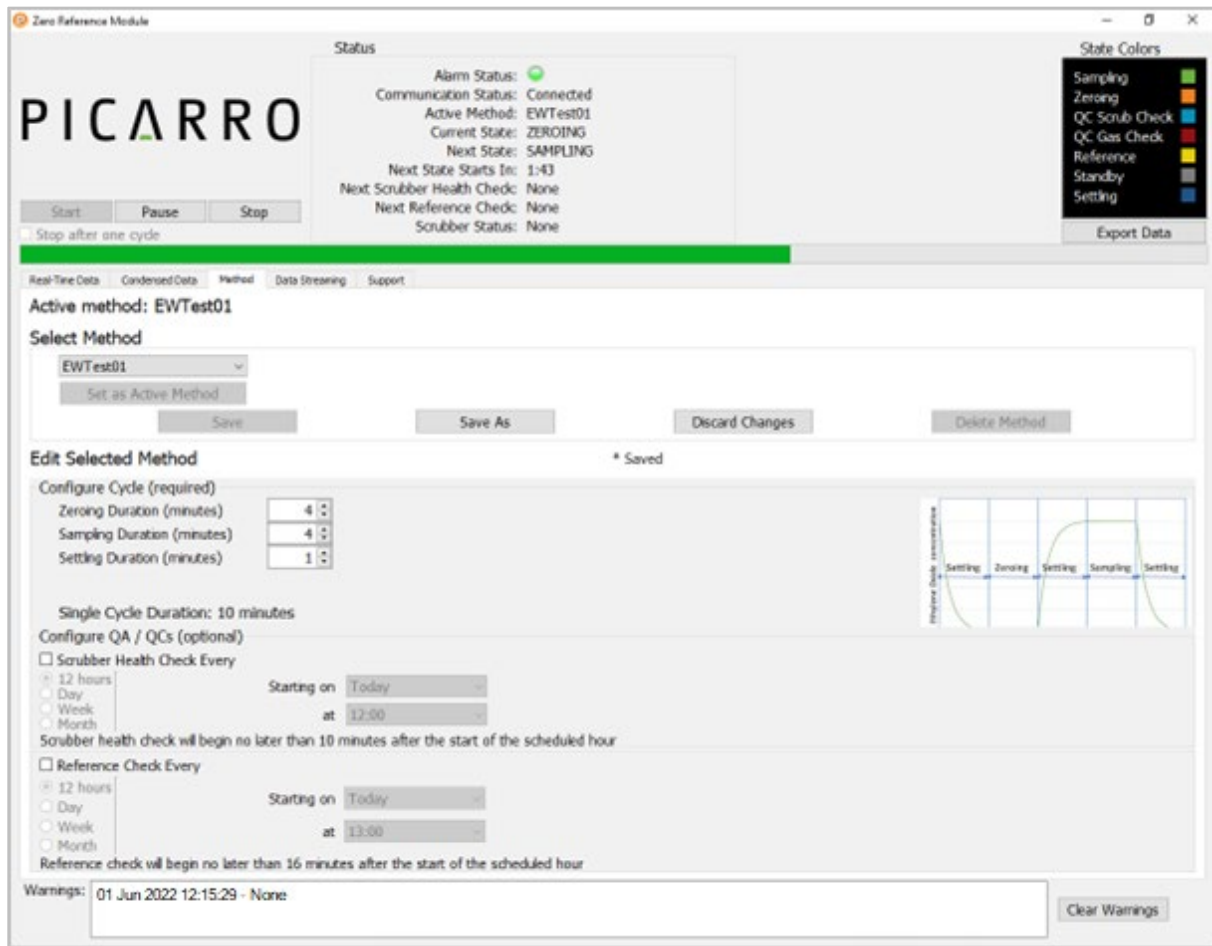

Figure 9: Operational Method Setup and Run
1. Click the **Method** tab (Figure 9 above).